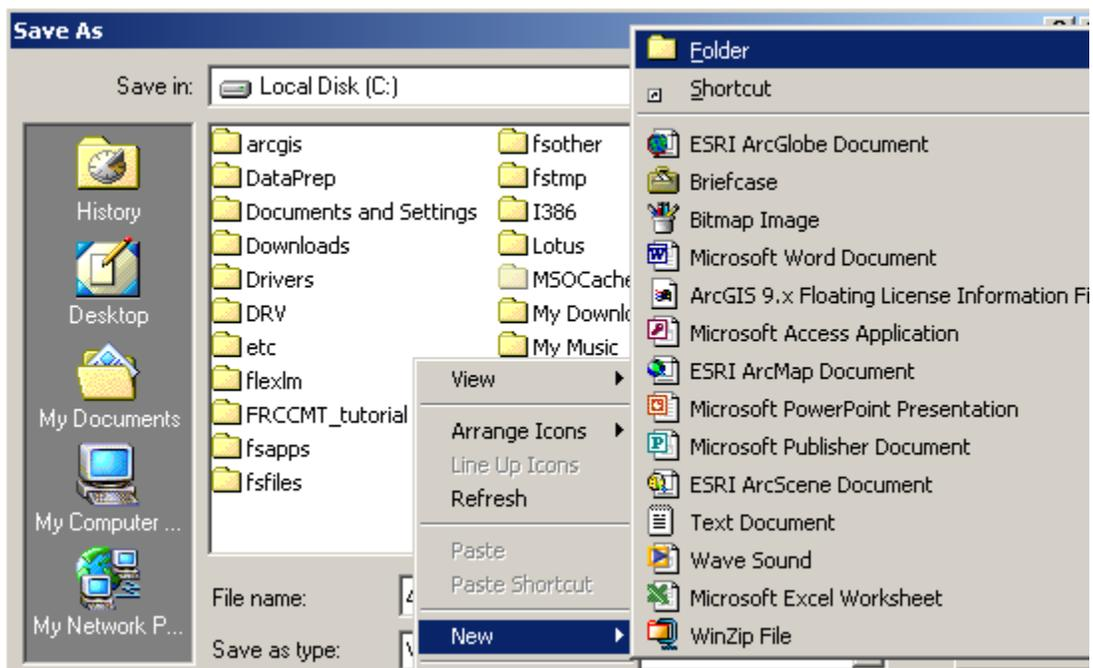

Figure C-3. Create new folder.
9. In the Save As dialog box, navigate to a location of your choice, right-click in the white space in the dialog box and select **New > Folder** (fig. C-3).